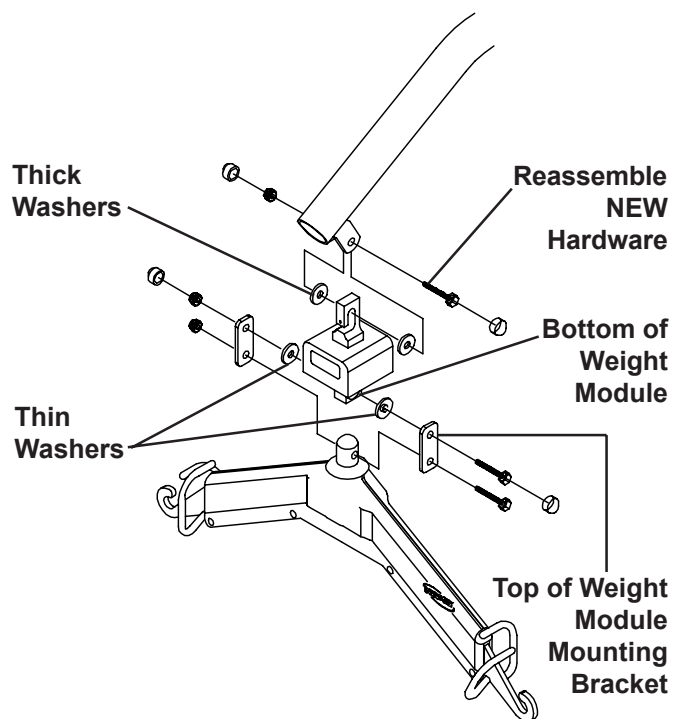

FIGURE 2 - WEIGHT MODULE INSTALLATION
2. Use the NEW hardware which includes bolt, nut and thick washers and assemble the weight module to the boom mounting bracket (FIGURE 2).
3. Secure the TOP of the weight module mounting bracket to the BOTTOM of the weight module with the nut, thin washers and bolt provided (FIGURE 2).
4. Reattach the swivel bar to the BOTTOM of the weight module bracket with the existing bolt and nut (FIGURE 2).